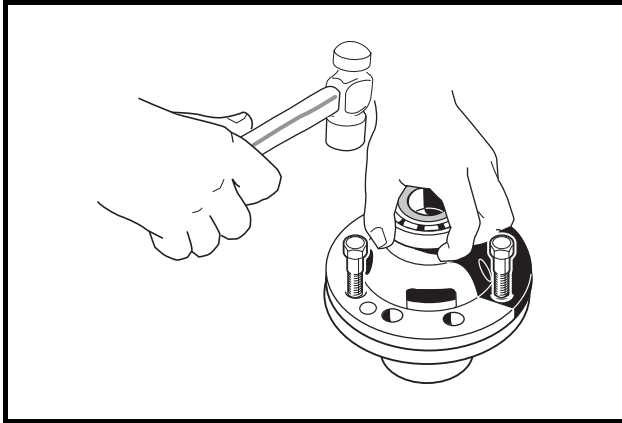

Figure 23-15 Separate Housing
- 8.3. Separate the differential gear case housing. If necessary, install two of the hex bolts (removed previously in step 8.1.) into the differential gear unit and, while holding the unit slightly above the work area, lightly tap the bolt heads (**Figure 23-15, Page 23-9**). Remove the two bolts.